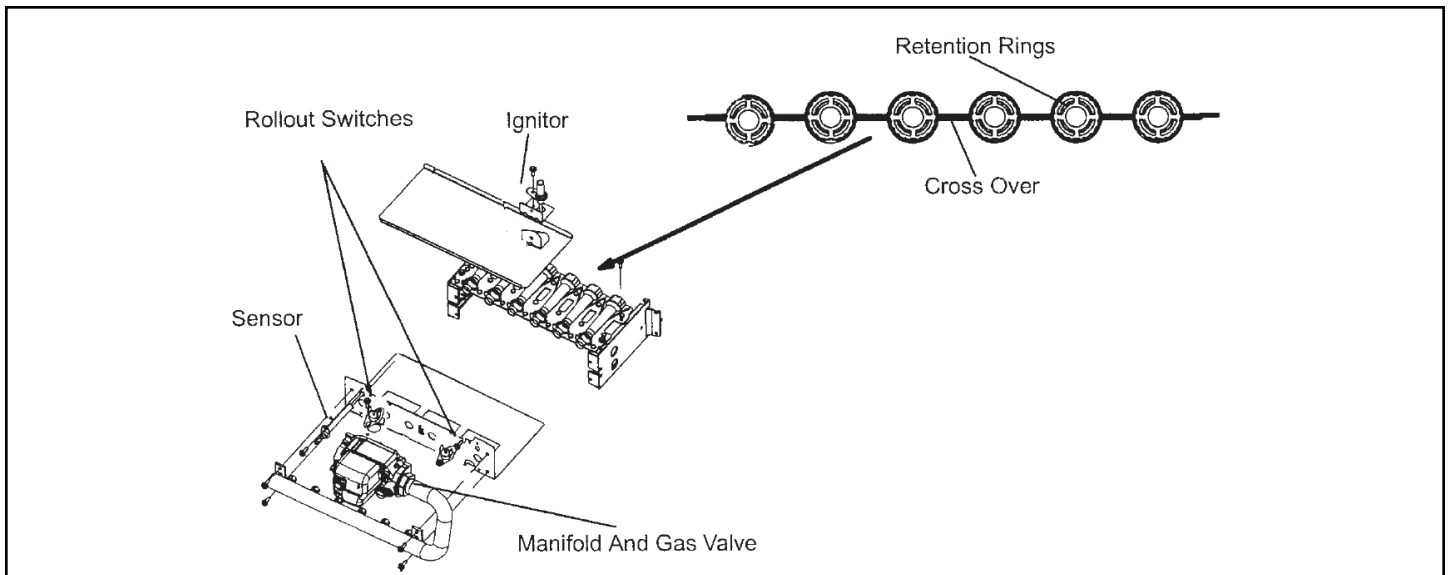

Figure 37. Burner Assembly Removal
4. To clean burners, run a vacuum cleaner with a soft brush attachment over the face of burners. Visually inspect inside the burners and crossovers for any blockage caused by foreign matter. Remove any blockage. Figure 37 shows burner detail.